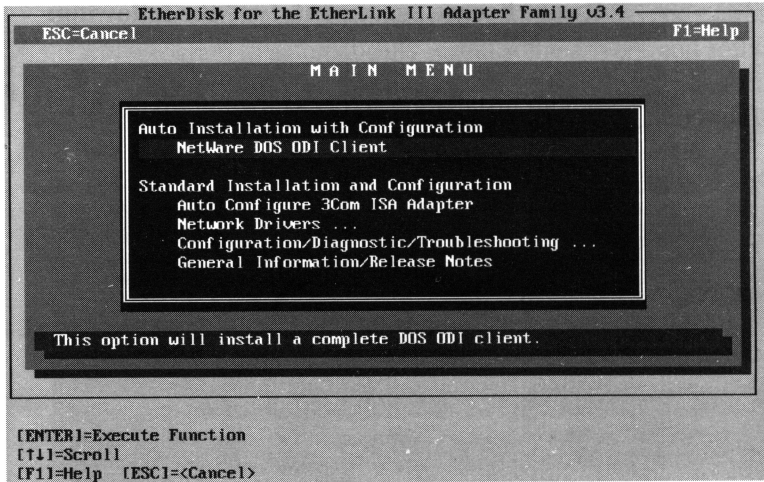

Figure 6-2. Main Menu
7. When the main menu screen shown in Figure 6-2 appears, select Network Drivers and press [Enter].